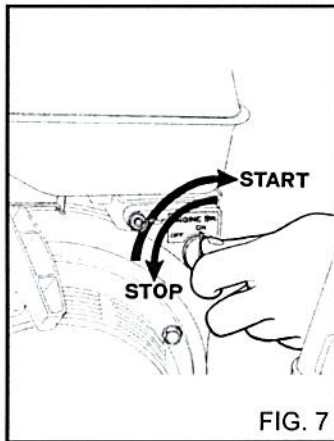

FIG. 7
3) Place the engine switch in the ON position (fig. 7).
a) Place the engine switch in the OFF position. (fig. 7).